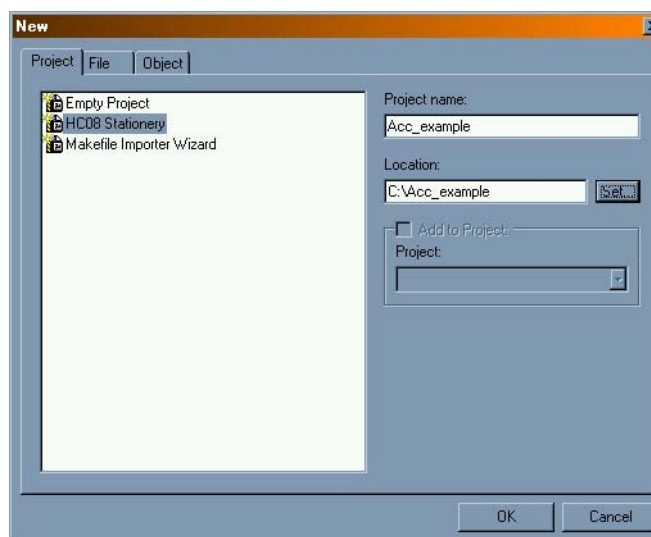

Figure 1-15. CodeWarrior New Project Window
3. Select HC08 Stationery (Figure 1-15).